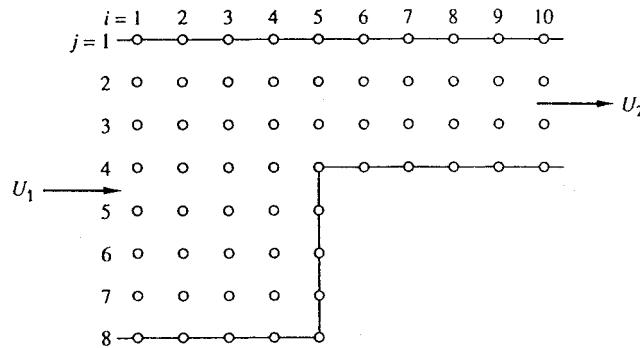

Fig. P8.108
**8.108** Consider two-dimensional potential flow into a step contraction as in Fig. P8.108. The inlet velocity  $U_1 = 7$  m/s, and the outlet velocity  $U_2$  is uniform. The nodes ( $i, j$ ) are labelled in the figure. Set up the complete finite-difference algebraic relation for all nodes. Solve, if possible, on a digital computer and plot the streamlines.